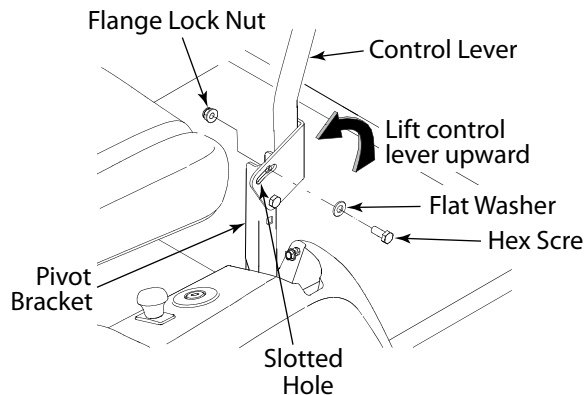

Figure 3-3
2. Lift and swing that control lever upward until the slotted hole in the lever bracket aligns with one of the holes in the pivot bracket. Refer to Figure 3-3.
- Slide the flat washer onto the hex screw. From the outside, insert the hex screw w/washer through the control lever slot and the hole of the pivot bracket. Secure with the flange lock nut. See Figure 3-3.